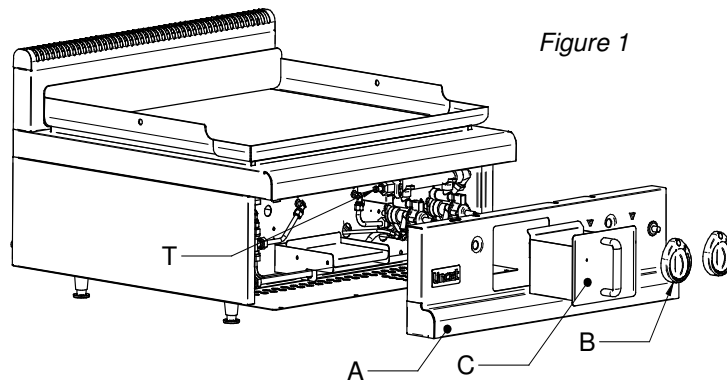

Figure 1
- Remove the blanking screw and attach a pressure gauge to the boss of the test nipple marked T on *figure 1*, page 7.